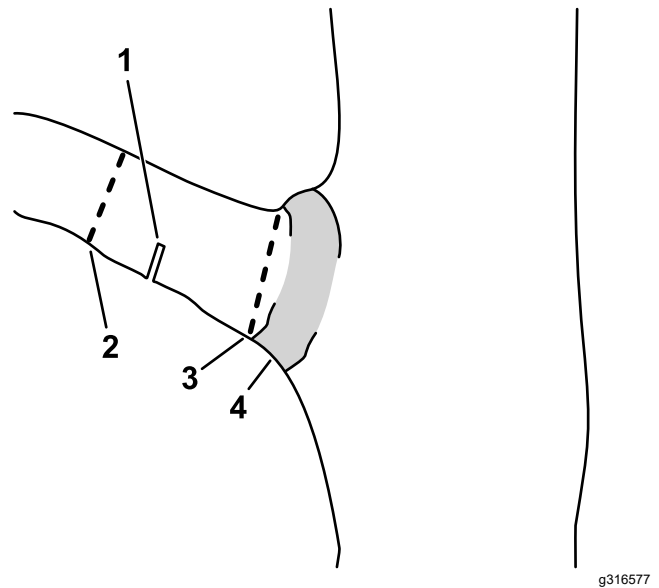

Figure 13
- C. Cut the limb stub at the branch collar (Figure 13).